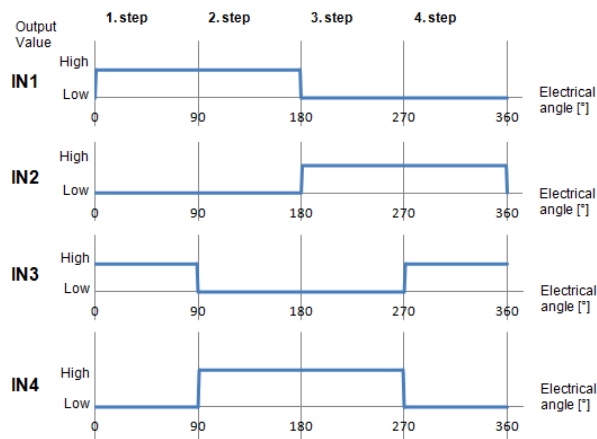
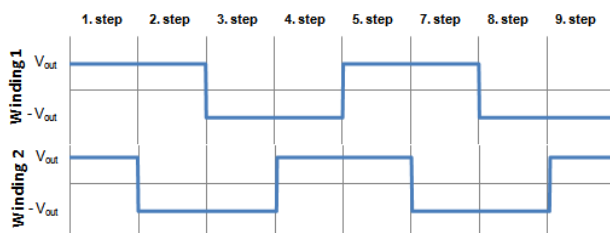

Figure 12. Signals of logic input pins generated by the MCU in Full-step mode
Figure 13. Output of the H-Bridge device in Full-step mode
- Forward motor direction indicates that steps are executed in the order depicted in Figure 12. IN1 through IN4 are the input pins of the H-Bridge device which control H-Bridge outputs. These pins input to the stepper motor. Connect the stepper motor to output pins OUT1-OUT4 and select control input pins on MCU in the component settings.
As mentioned in Section 3.1.3, "Setting up a Project to Control a Stepper Motor", a full-stepping signal can be generated either by using four channels of a timer or by using four GPIO pins. The signal generated by the MCU (inputs of H-Bridge device) using four timer channels is shown in Figure 12. The voltage levels applied to the coils of the stepper motor are depicted in Figure 13. Note that the voltage is applied to both coils at the same time.